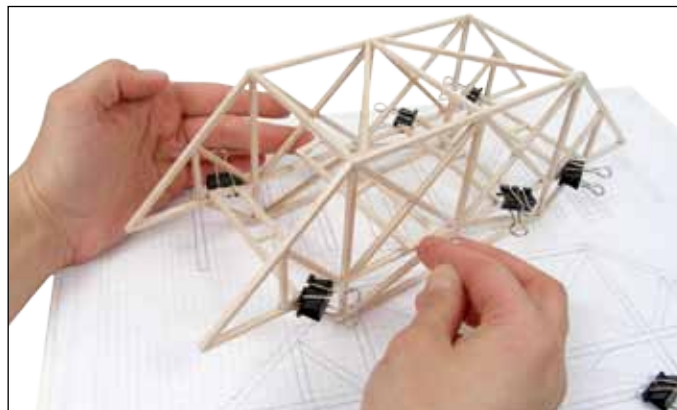

Figure 27 – Roadway cross braces glued in place
- Apply glue to the sides where the roadway cross braces will be attached. Put the cross braces in place. If needed, you can clamp the braces in place with clips while they dry (Figure 27).